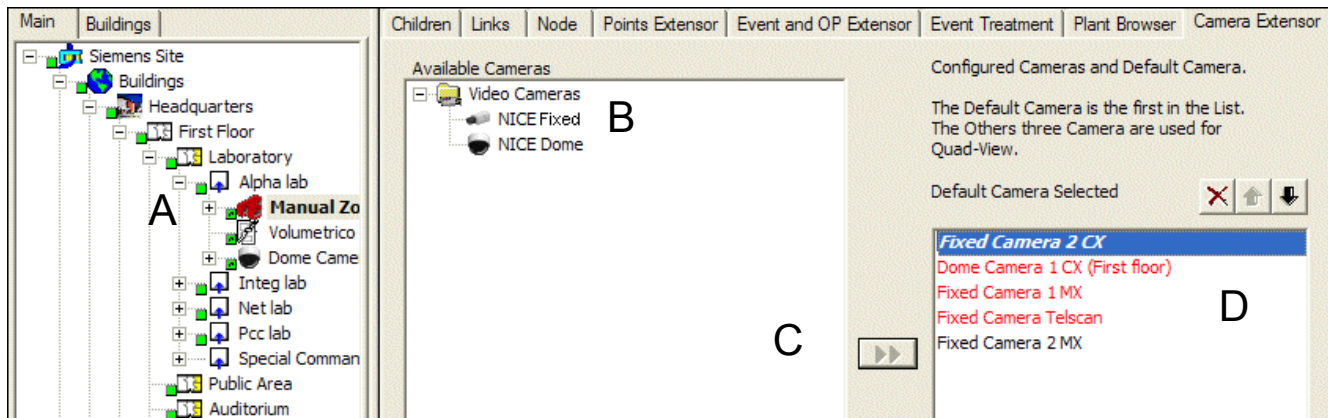

Fig. 14 Camera association
First, select the point node in the tree. Then, in the **Camera Extensor** tab (Fig. 14) you can see the camera associations and manually add one or more cameras.
- Note:** The next three cameras (if available) display in **red** text – these will be displayed in the quad view. Any additional cameras associated to the point display in black text. (See Fig. 14, “D”.)